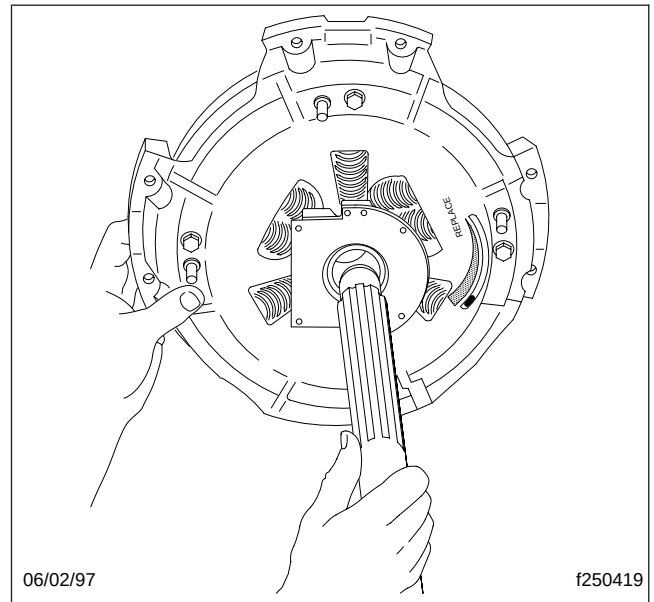

Fig. 2, Inserting an Aligning Tool
3. Set the clutch cover upright, and insert a spline aligning tool through the release bearing sleeve. See Fig. 2.